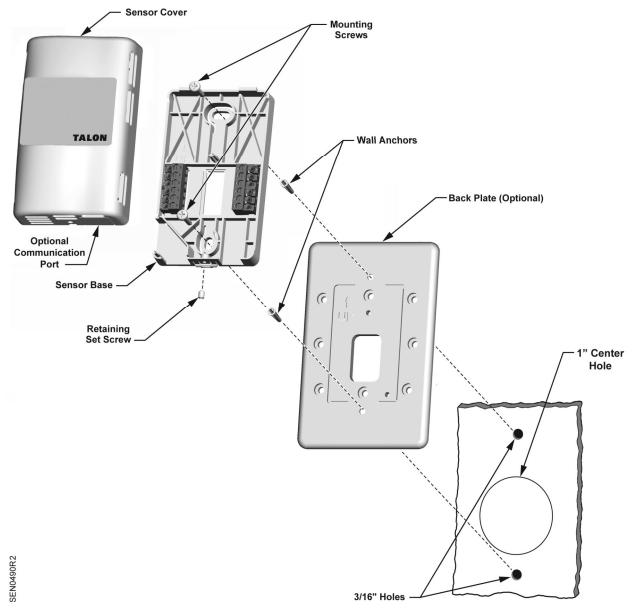

Figure 2. Drywall Mounting (No Rough-in), Typical.
1. Mark the center (cable) hole and the mounting hole locations, using the room unit base plate as a template. See Figure 2.